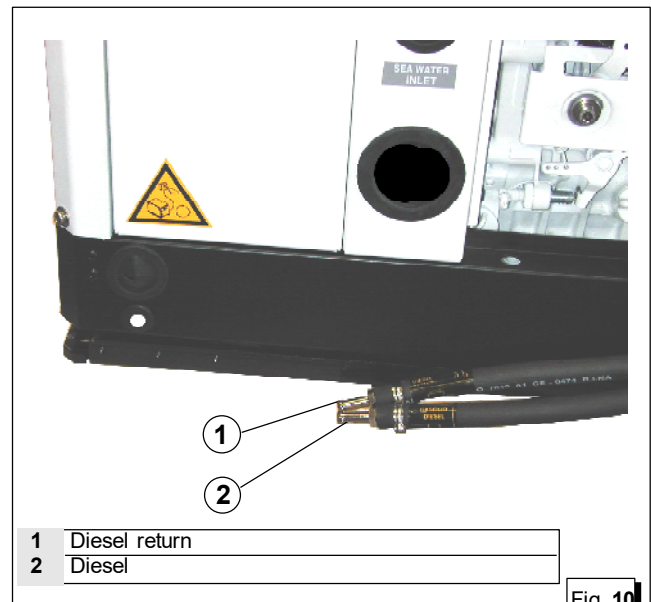

Fig. 10
The unit is fed by diesel fuel through the tubes marked "DIESEL" and "DIESEL RETURN" (fig.10, ref.1-2). This latter is used for the return of the excess fuel. **It is necessary to install a filter in connections to the fuel tank**, it is also advisable to fit a tap onto the power supply line downstream of the tank and a single-acting valve (check valve only for a difference in height of 50 cm or more) to prevent the fuel system emptying for any reason. Use a valve with a 50 millibar opening.